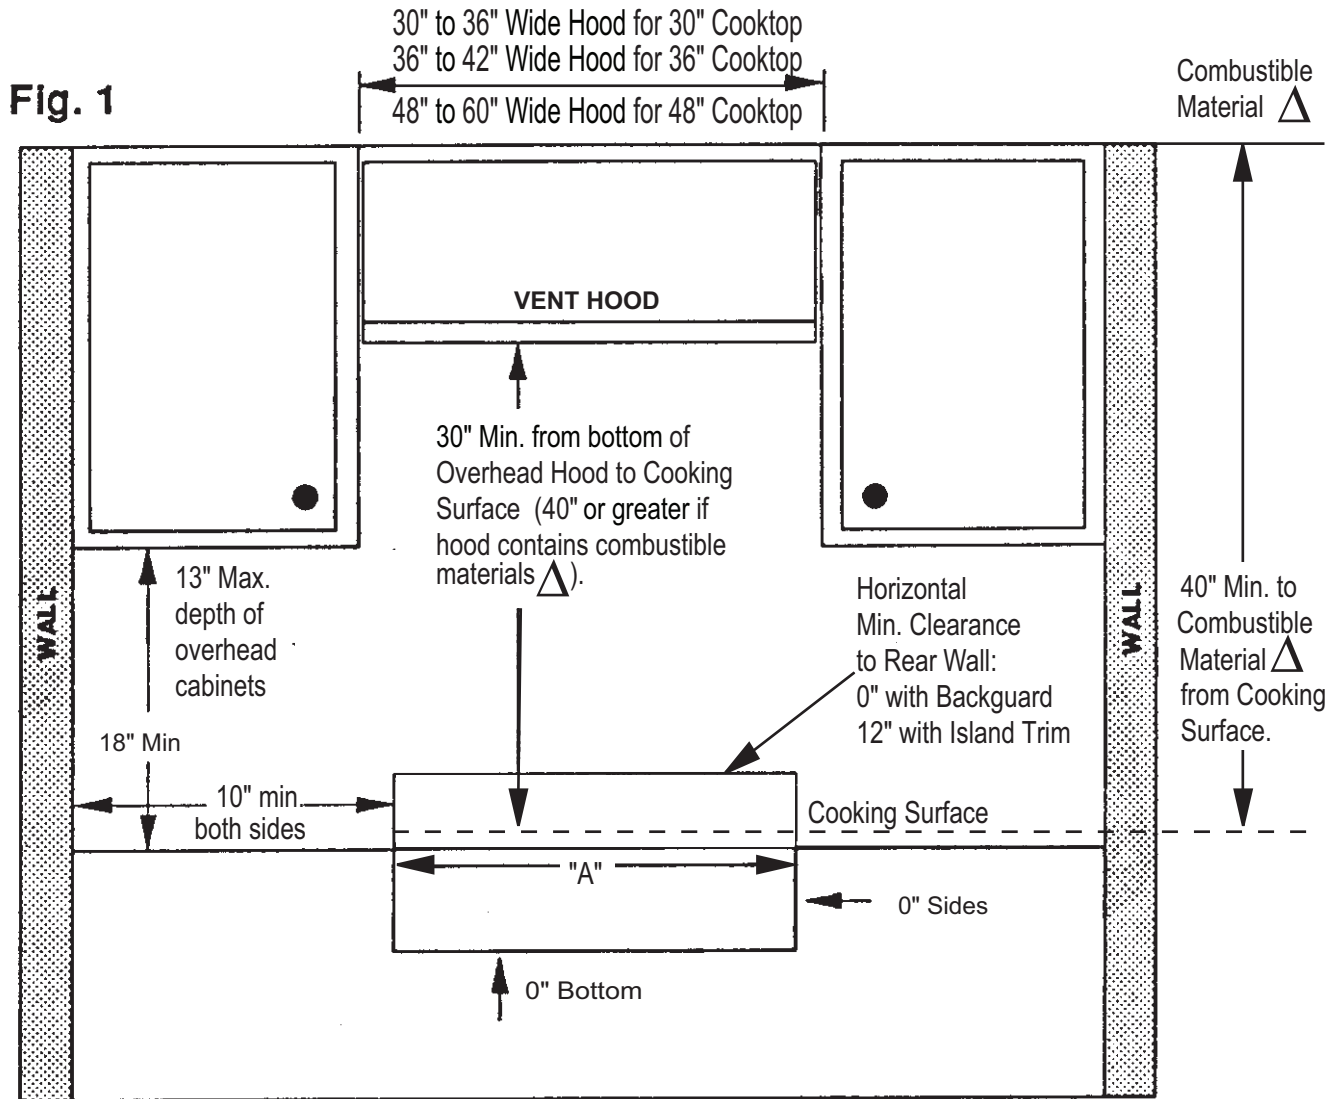

Figure 1: Clearance Requirements
- For best smoke elimination, the lower edge of the hood should be installed 30" above the appliance cooking surface. (See Figure 1).
- * For high output gas cooktops (60,000 BTU or greater), the minimum of one (1) CFM of ventilation per 100 BTU is recommended. If the cooktop has a griddle, add 200 CFM to the estimated blower capacity. Additional blower capacity may be required for longer duct runs.
2. The clearances shown in Figure 1 are required. The same clearances apply to island installations, except for the overhead cabinets, which must have a space wide enough to accept the island hood.
10. For installation of a 48" cooktop above two side-by-side Thermador Warming Drawers, Model No. WD24, refer to Figure 8. Completing the installation as per Figure 8 will result in the left and right edges of the cooktop being aligned with the left edge of the left-side warming drawer and right edge of the right-side warming drawer. If different alignment is desired, the 1-7/8" horizontal distance between warming drawer cutouts may be varied. However, maintain at least a 1-1/8" distance to avoid interference between the warming drawers. Attach a 90-degree elbow to the gas cooktop inlet pipe. All above-the-countertop clearances must be maintained, as shown in Figure 1.